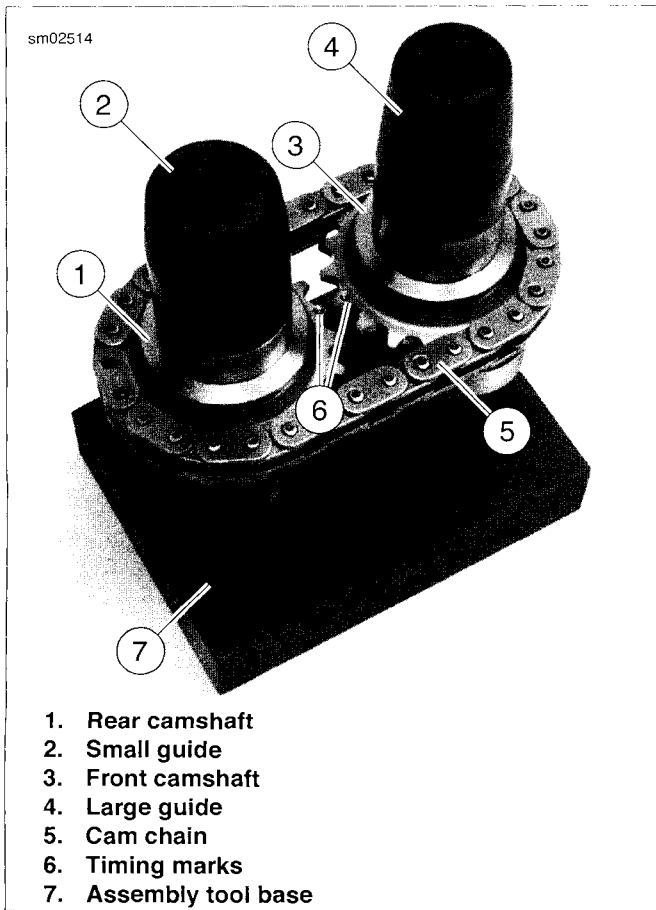
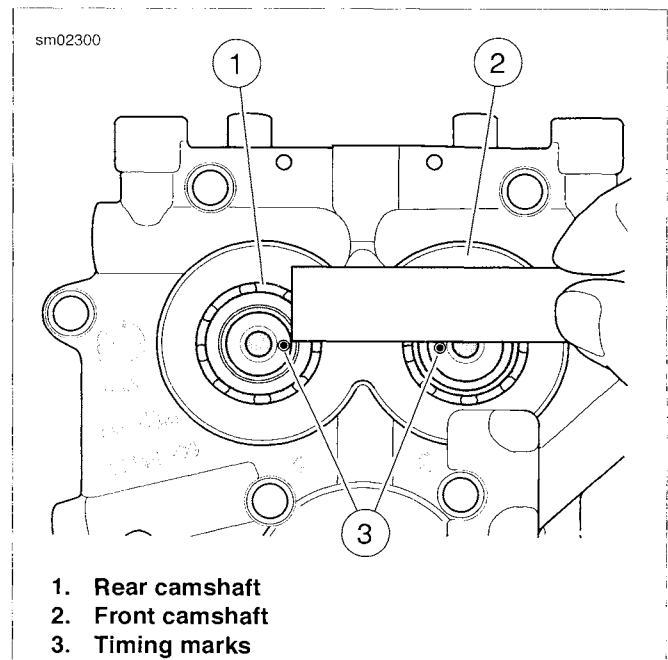

Figure 3-127. Camshaft Assembly Tool
Figure 3-128. Verify Alignment of Timing Marks
3. See Figure 3-127. Obtain CAMSHAFT ASSEMBLY TOOL (Part No. HD-47956). Place crankcase side of camshaft/cam chain assembly into assembly tool base (7) while maintaining cam timing mark (6) alignment.
4. Place small guide (2) on rear camshaft (1). Place large guide (4) on front camshaft (3).
8. See Figure 3-128. Using a straightedge, verify that the timing marks are in alignment. If they are not, then the camshafts must be removed, realigned and reinstalled.